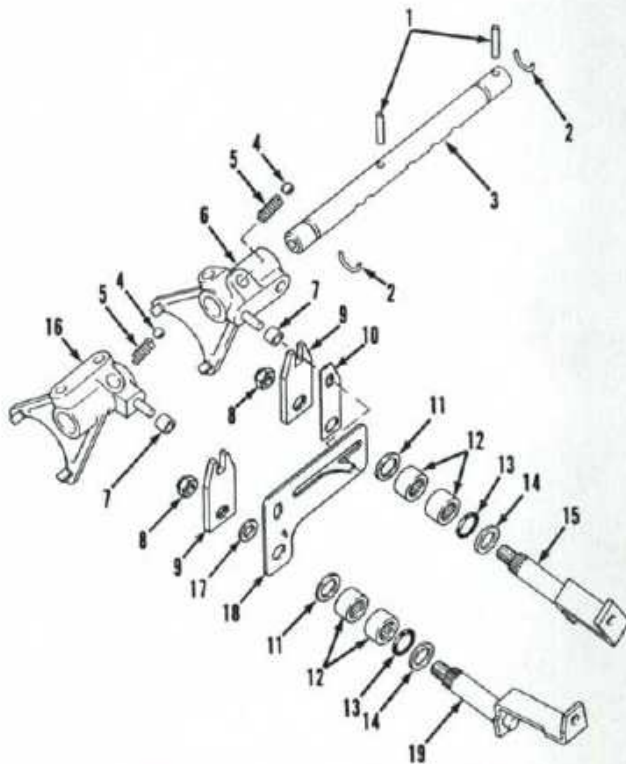

Fig. 120—Exploded view of shift levers, shift rail and shift forks used on range transmission.
Refer to Fig. 120 and remove snap rings (2). Drive out roll pins (1) and rotate shift rail (3) to disengage detent balls (4) from slots in rail. Move shift rail forward and cover shift fork (6) with a shop towel to prevent losing detent ball and spring. Rotate shift fork to remove bushing (7), then remove Lo-Reverse shift fork. Remove Hi-Neutral shift fork (16) in same manner. Removal of shift levers and shift arms is obvious after examination of the units and reference to Fig. 120.